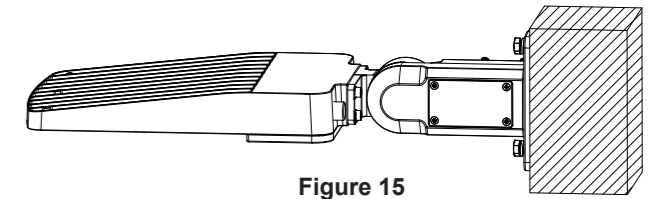
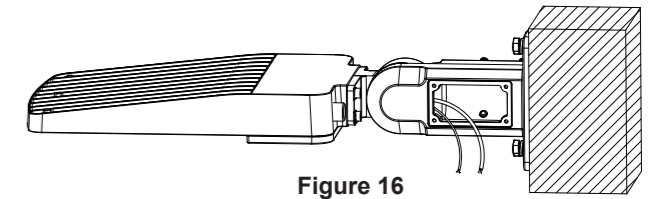

Figure 15
Figure 16
3. Wiring access is available by removing the sheet metal cover on this bracket, as shown in Figure 15 and Figure 16.